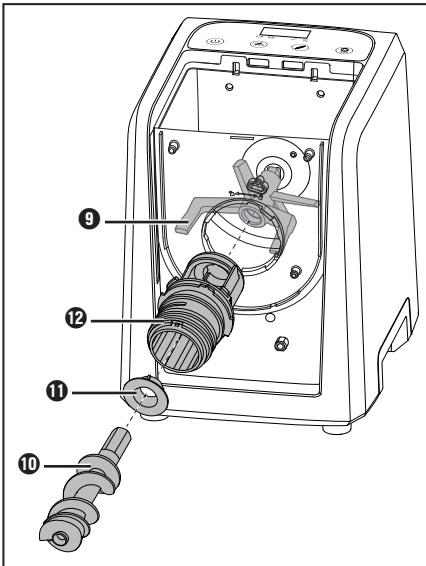

Fig. 3
- 4) Push the support **11** into the end of the bracket **12** so that the three tabs on the support **11** slide into the grooves on the bracket **12** (fig. 3).
- 5) Mount the bracket **12** onto the dough container **15**. Push in the bracket **12** so that its narrow end goes through the round opening on the dough container **15** (fig. 3).
- 6) Then push the dough shaft **10** with its narrow end through the bracket **12** into the retainer on the kneading hook **9** (fig. 3). If necessary, reach into the dough container **15** from above and wiggle the kneading hook **9** a little until you can push in the dough shaft **10**.